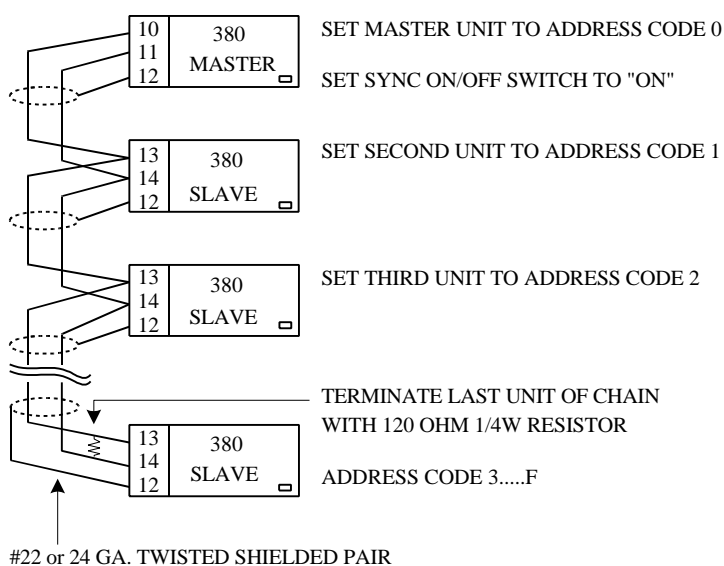

Figure 11
Two or more Model 380's may be used together or with microwave T/R links such as Southwest Microwave synchronized Model 300B/310B in order to provide a long interrupted detection zone. The unique multiplex feature of the Model 380 allows the sensor to operate with up to 15 additional transceivers with no mutual interference, since only one unit is activated at a time. The unit is also built with two (A and B) staggered RF frequencies to help reduce mutual interference. Figure 11 shows the typical synchronization wiring configuration for the Model 380 transceivers. Any unit may be selected to be the master clock but only one master is used for 15 slaves. Since all units are synchronized to a 1 kHz square wave that is supplied from the master, their turn-on time is controlled by an address code selectable at each of the units. Table 1 gives the time slots versus address code. Unless there is no danger of interference, all units should be set to different address codes.
- 6) For synchronization, a #22 or #24 gauge twisted shielded pair wire must be connected between the transceivers. One end of the wire is connected to (+) and (-) master synchronization terminals. The other end connects to (+) and (-) slave terminal on the second transceiver. Additional slaves would be daisy chained from (+) and (-) slave terminal (See Figure 11). The last slave unit **must** be terminated with a 120 ohm 1/4 watt resistor. Set the units to the appropriate address code with the master set to zero. Set the Sync Switch to "ON" position on master.
Follow wiring diagram as shown in Figure 11. It is recommended that each sensor be aligned individually. Follow the procedure outlined in section 1.0 except that the address code in step 1.4 should be set at different channels for each unit. Insure that the lock light is out at each sensor, except the one designated as the master. This indicates that the internal oscillator has acquired lock.